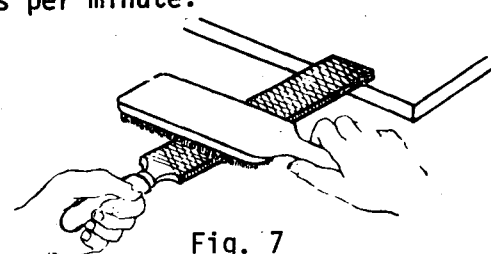

Fig. 7
5. Use a file-card or brush to clean the file (Fig. 7).